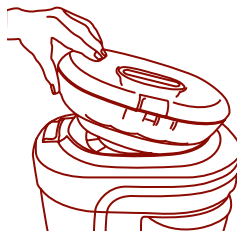

Figure 1
2. Place the Ice Reservoir on the unit front first, then push down firmly on back. Reservoir must click into place. *Figure 1*